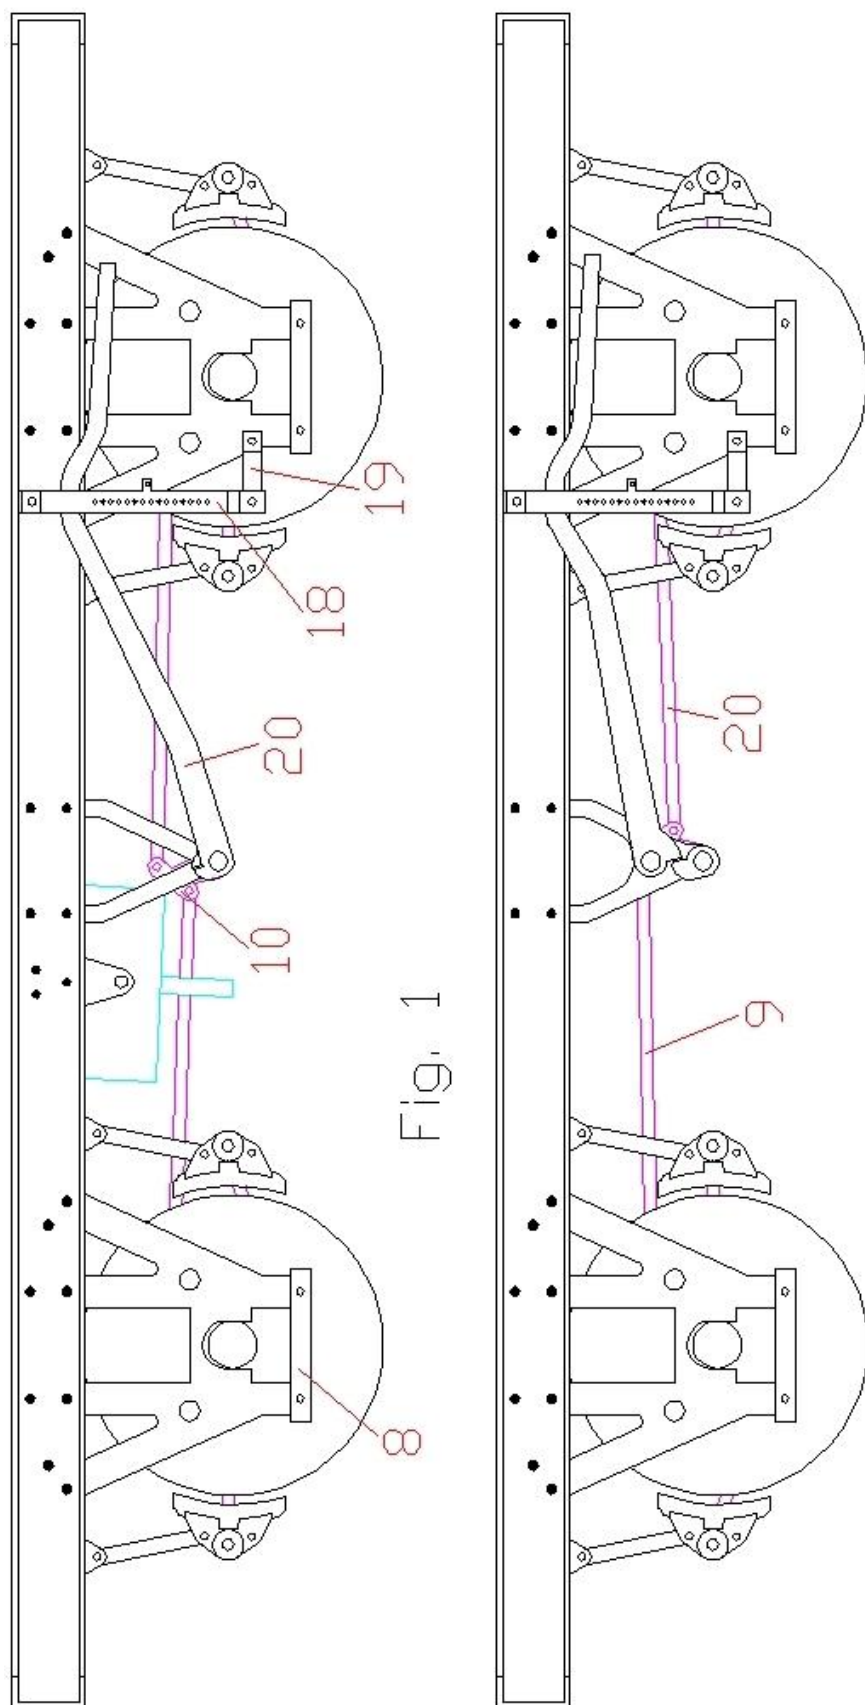

Fig. 1
The solebar detailing (14) comes contained in its own little fret. See Fig.1. On it you will find fabricated axle spring stops, number plates, label clips, a rectangle that is actually a block of wood on the real thing and some small round dual depth plates. I have no idea what the purpose of the last two items is but the rectangular block of wood was quite common and the round plates could be found on shock absorbing vans where the springs were mounted inside the solebars. The positions of all this stuff varied so check your